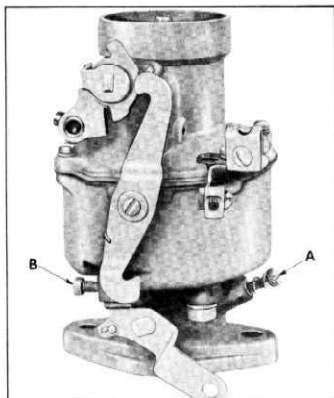

Fig. 92—Idle and Mixture Adjustment
1. With engine at operating temperature, screw idle adjusting screw "A" (fig. 92) all the way in.